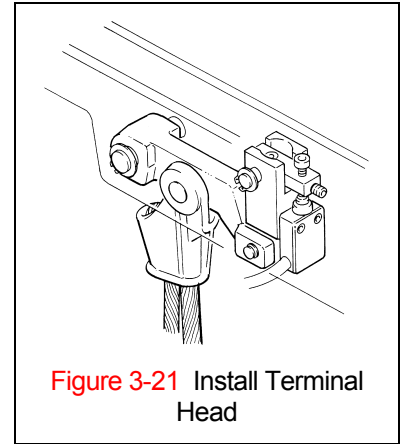

Figure 3-21 Install Terminal Head
- 7) Reattach the Terminal Head (F) to the Load Limiter (C) with the Terminal Head Pin (E) and reattach the Load Limiter (C) to the Terminal Head Crossbar (A) using the Load Limiter Pin (D) and Retaining ring (B) (Figure 3-21). Note: the Load limiter is standard on the 7½T, optional on the 5T and 10T trolley hoists.